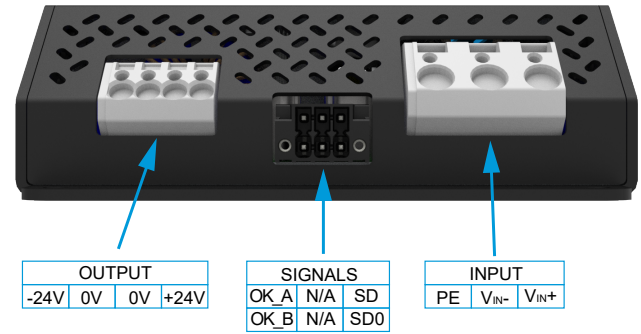

Fig. 11
- Auxiliary connector: Phoenix Contact 1874027; pin allocation see Fig. 11.